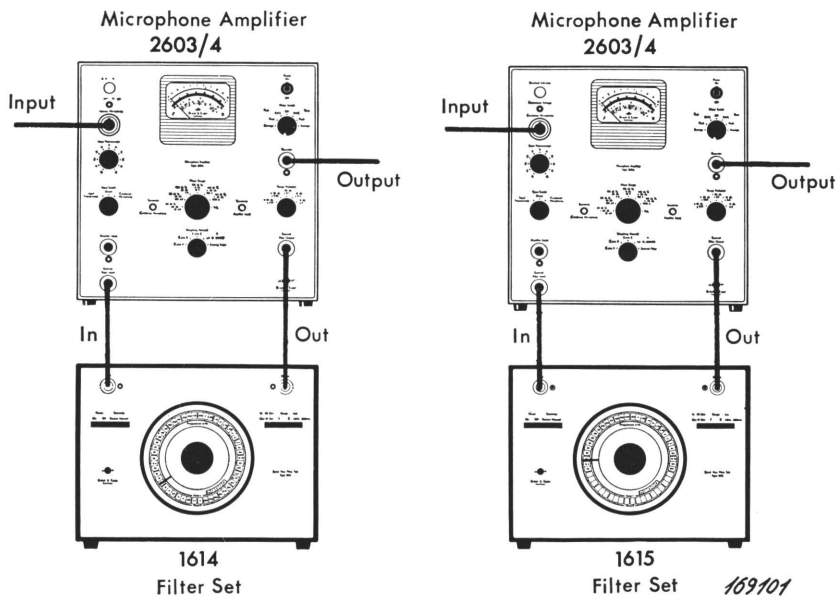

Fig.4.1 Filter Set Type 1614/15 combined with Microphone Amplifier Types 2603/04
A typical measuring set-up of the 1614/15 and 2603/04 is shown in Fig.4.1. The system can be used for sound and vibration analysis or for analysing voltage waveforms.
2. Wire up Band-Pass Filter Set and Microphone Amplifier according to Fig.4.1.